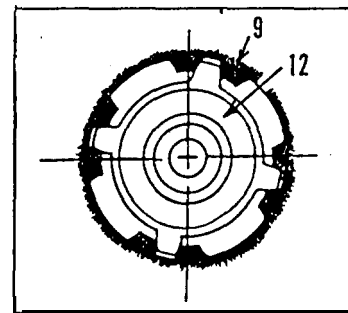

Fig. 18
★ As for HD785-3, HD1200M-1, and HD1400B-3, it should be confirmed that the drive link (12) and rotor (9) splines are fitted in together as shown in Fig. 18.